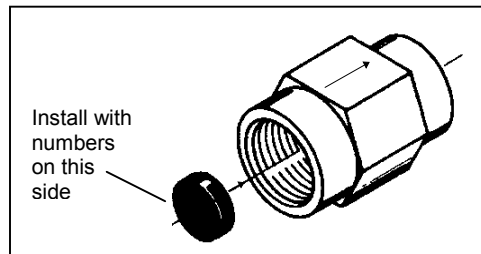

Figure 2-7: DLFC Washer Installation
- B. Note the required Backwash / Rapid Rinse flow DLFC in Table 1-1. Out of the bag of in line flow control (DLFC) washers, choose the one with this flow stamped on it (flows are in hundredths of a GPM; i.e. 500 = 5 GPM). Install this DLFC flow washer onto the inlet side of the supplied DLFC housing, as shown in Figure 2-7. Make sure the numbers on the washer are facing out.